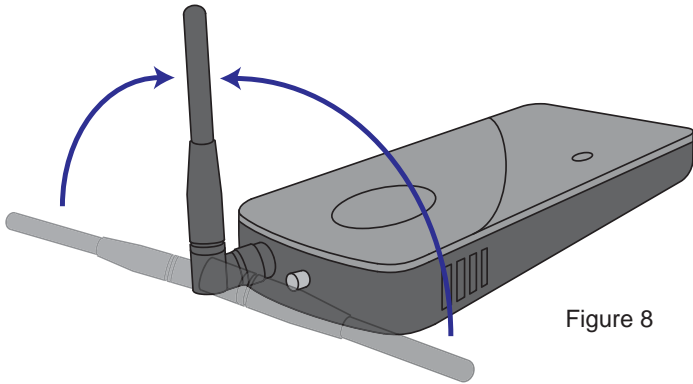

Figure 8
1. Attach the on-board antenna by screwing it onto the threaded connector on the amplifier. Position the antenna vertically by rotating it on its base (see Figure 8). Operating the amplifier with the on-board antenna in a position other than vertical will reduce its performance.
1. Attach the on-board antenna by screwing it onto the threaded connector on the amplifier (see Figure 8).